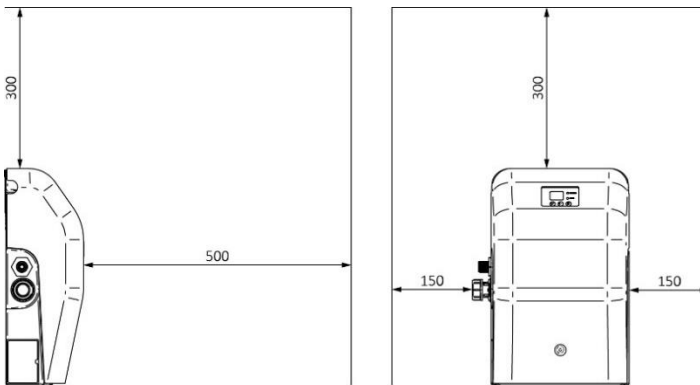

Fig. 2
- 4.11 Access and minimum clearance requirements:** For emergencies and maintenance the unit must be easily accessible and have the minimum clearance around it as laid out in Fig. 2. Additional access to the front of the unit will be required to operate the keypad and view the display.